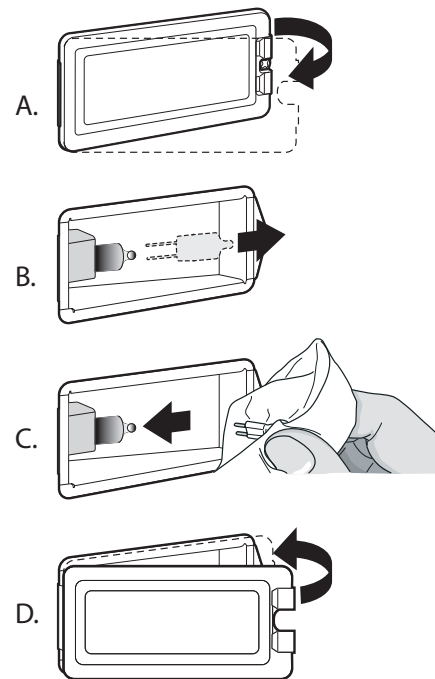

Figure 31: Bulb Replacement
3. Slide the tip of a flat blade screw driver between the fixing clip and the lamp housing (*Figure 31, A*).
6. Remove the bulb by grasping and sliding the bulb straight back until the two prongs have cleared the ceramic holder (*Figure 31, B*).
8. Press down to seat the bulb (*Figure 31, C*).
9. Slide the protective lens into the holder clip and push the other end until the fixing clip snaps back into the housing (*Figure 31, D*).